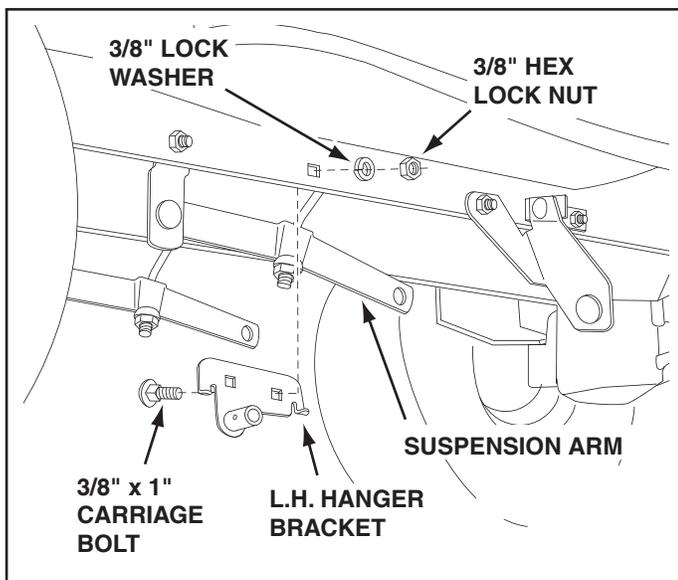

FIGURE 8 LEFT SIDE VIEW
### On Tractors Without Foot Rest Brackets (Figure 8)
3. Find the empty hole beneath the foot rest. Attach the L.H. Hanger Bracket (marked "L") to the inside of the frame using a 3/8" x 1" carriage bolt (head to inside), a 3/8" lock washer and a 3/8" hex lock nut. See figure 8. Repeat for the R.H. side.